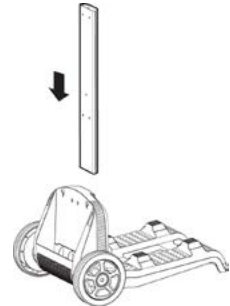

Figure 9
1. Slide the handle support into its groove on the caddy chassis and push it firmly down into its seat in the chassis. See **Figure 9**.